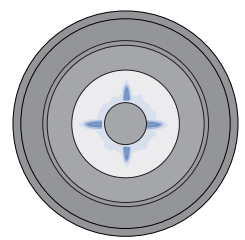

Fig. 5
5. Adjust the inner flame to desired size -Fig. 5.